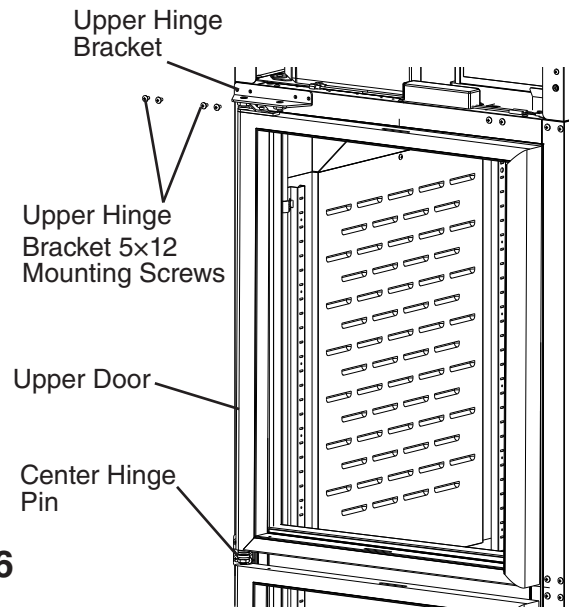

Fig. 66
19) While supporting the upper door and upper hinge bracket, place the upper door onto the upper center hinge pin on the center hinge bracket in the closed position, then secure the upper hinge bracket to the cabinet. See Fig. 66. **NOTICE! Be sure to reuse the bracket screws for mounting the bracket as the bracket screws are 5x12 and filler screws are 5x10.**